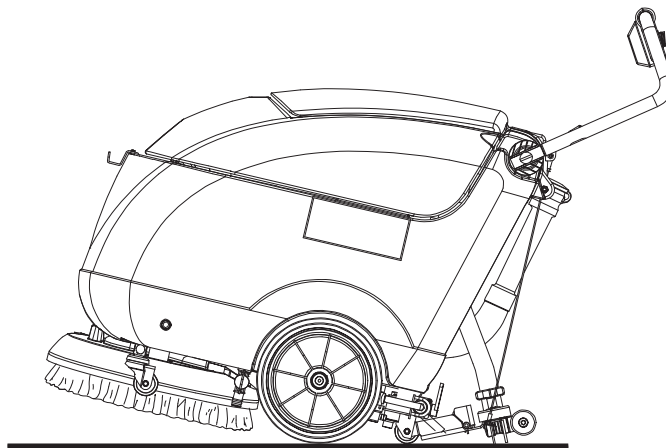

Figure 2
2. Disconnect the power supply cable (21) from the electrical mains and place it on the holder.
3. Lift the squeegee with the lever (19).
4. Grasp the handlebar (2) and slightly lower it until the rear wheel (7) comes into contact with the floor (Fig. 2). While holding the machine in this position, drive it to the transport/parking area.
5. In order not to drag the brush/pad on the floor and leave wet marks, when finishing working, remove the brush/pad-holder from the deck by using the release device (see the procedure in After Using The Machine paragraph), then place it on the support (25).